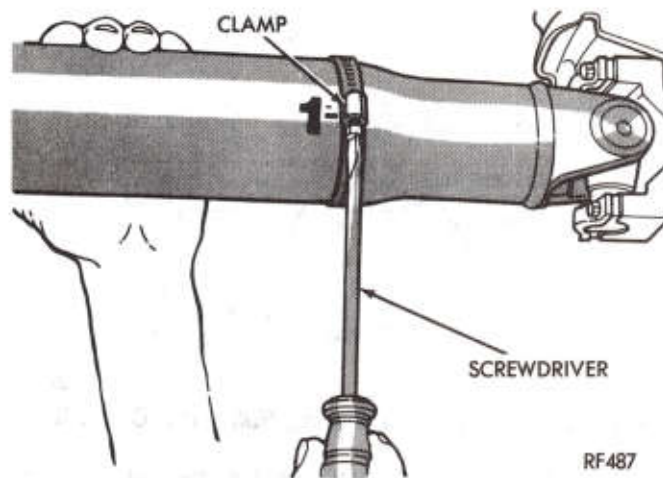
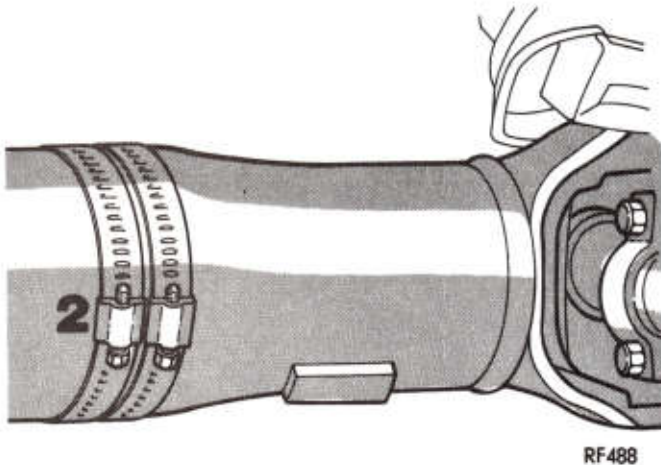

Fig. 20—Clamp Installed at Position "1"
Fig. 21—Two Clamps Installed at Best Position
(1) Raise vehicle on hoist and install jack stands.
(2) Clean all foreign material from shaft (mud undercoating, etc.).
(3) Examine shaft for missing balance weights, broken welds, bends or dents. **If the shaft is bent, it must be replaced.**
(4) Make sure that cross and rollers are not worn and that they are properly centered in the shaft and that their retainers are properly installed.
(5) Check or retighten pinion flange bolts.
(6) Remove wheel covers. Mark rear wheel and stud to aid in proper indexing at reassembly. Remove wheel and tire assemblies. Reinstall wheel nuts to hold brake drums in position.
(7) Mark the shaft at four 90° intervals, approximately six inches forward of the weld at the rear end, and number them one through four.
(8) Install and tighten a screw type hose clamp on propeller shaft with screw at position "1" (Fig. 20).
(9) Connect a tachometer. Start engine, place vehicle in gear and accelerate engine to rpm where vibration occurred. Compare vibration level to original complaint. If there is little or no change, move clamp to the other three marked positions and repeat test. If no difference is noted with clamp moved to all four positions, vibration may not be propeller shaft unbalance.
(10) If vibration lessened but was not completely gone, position two clamps at that point and run test again (Fig. 21).